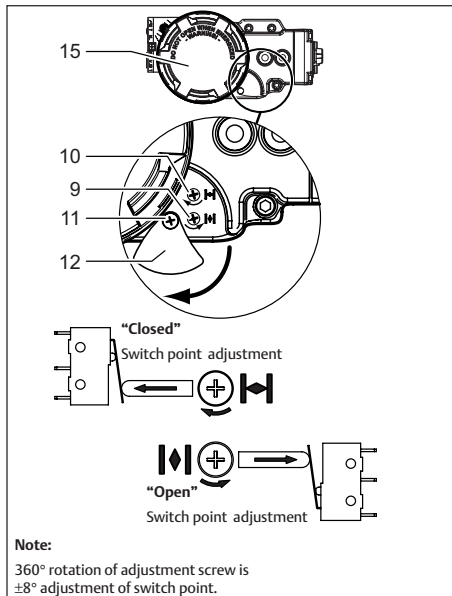

Fig. 5.3 Re-adjustment screws for “Open” and “Closed” position feedback
The QC41, QC42 and QC43 are equipped with non-intrusive switch adjustment. The adjustment screws are accessible behind a small shield in the front of the module (see fig 5.3).
- In this case the top adjustment screw (see Figure. 5.3), sets the switch point of the "Closed" position and bottom adjustment screw sets the switch point of the "Open" position.
Procedure (see Figure 5.3):